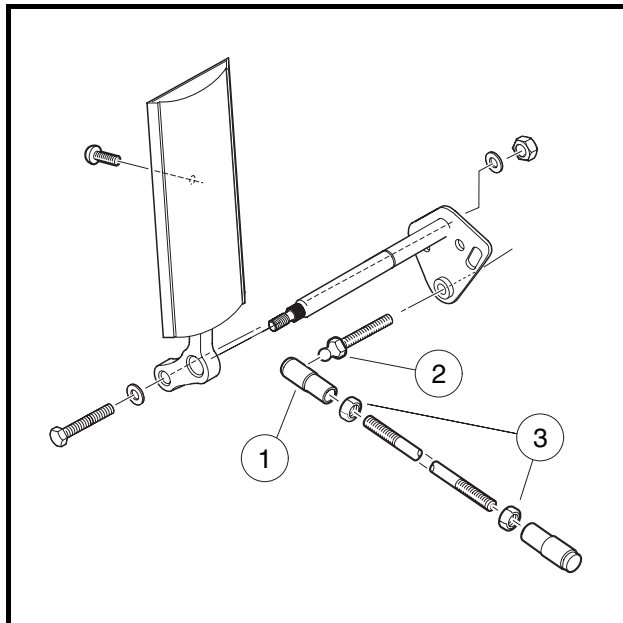

Figure 14-3 Accelerator Rod
2. Remove the accelerator rod by disconnecting the ball joint (1) from the ball stud (2) on the accelerator pedal (Figure 14-3, Page 14-6) and from the bell crank at the electrical box (Figure 14-5, Page 14-8).
2. Install the ball joint on the ball stud at the accelerator pedal (**Figure 14-3, Page 14-6**).
- 5.1. With the ball joint jam nuts (3) loose (**Figure 14-3, Page 14-6**), adjust the length of the accelerator rod so the indicated cam edge is parallel with the edge of the electrical component box as shown (**Figure 14-4, Page 14-7**).